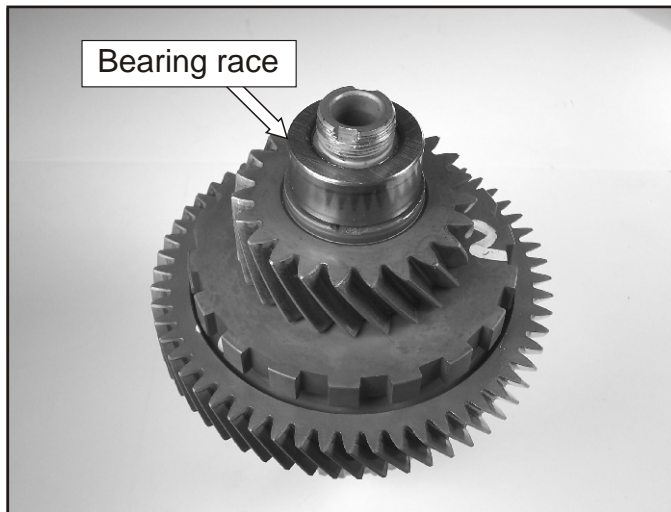

Figure 169
- 114. Using a suitable press, install the bearing race as shown in Figure 169.